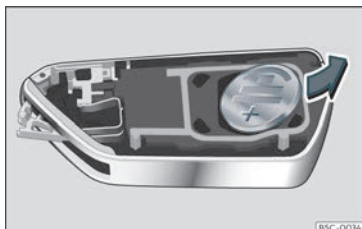

Fig. 77 Vehicle key: removing the battery.
- Extract the battery from the compartment using a suitable thin object >>> Fig. 77.
- Insert the new battery and press it into the battery compartment >>> ①.